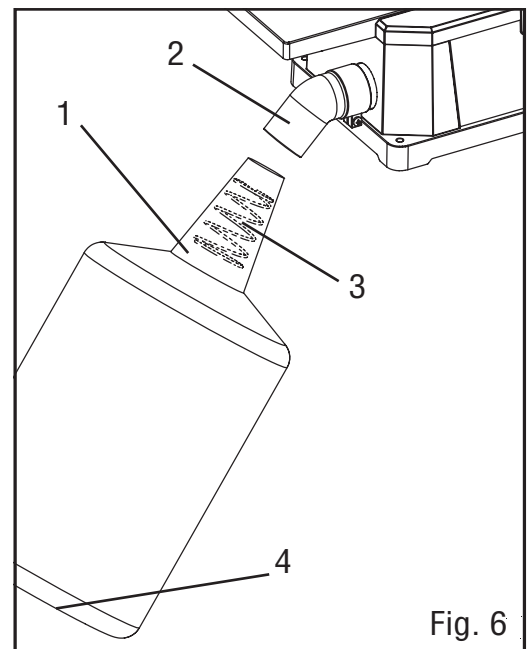

Fig. 6
1. Open the zipper on the bottom of the bag (Fig. 6 - 4) and place the spring (Fig. 6 - 3) inside of the filter bag spout (Fig. 6 - 1). The smaller end should come out of the spout first.
2. Slide the filter bag spout with the spring inside of it over the dust chute (Fig. 6 - 2). Securely press the smaller end of the spring over the opening of the dust chute.